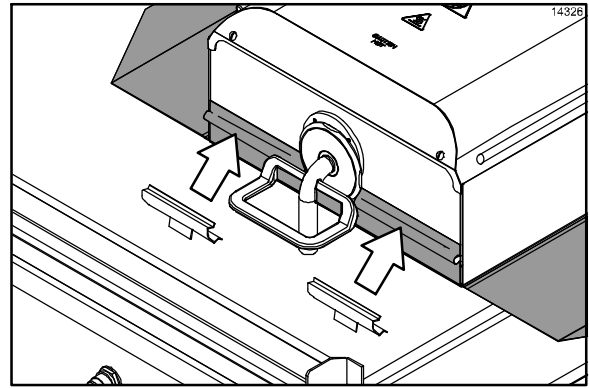

Figure 13
3. Center the release sheet on the bar. Pull it tightly over the release material bar located in the front of the platen. Secure the sheet with two locking clips. (See Figure 13.)